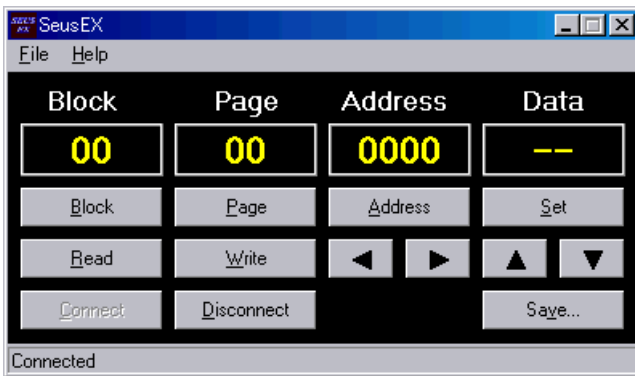

Fig. 6-3-1
- 4) Click **Connect** on the SeusEX screen. If the connection is normal, the SeusEX screen will be as shown in Fig. 6-3-1, indicating the “connected” state.